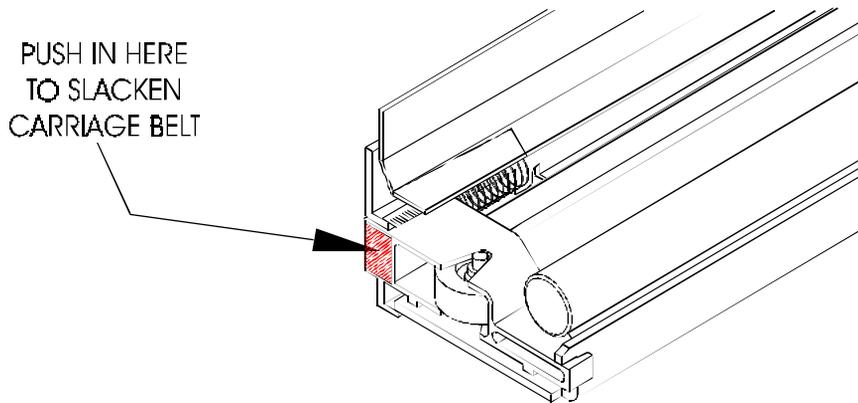

Figure 5-9. Slacken Carriage Belt.
7. Depress the back of the Frame Tensioner (see Figure 5-9) to create slack in the Carriage Belt and slip it off of the Servo Motor pulley.
6. Compress the back of the Frame Tensioner and use the end of a screwdriver to remove the Carriage Belt from the Servo Motor pulley. See Figure 5-9.